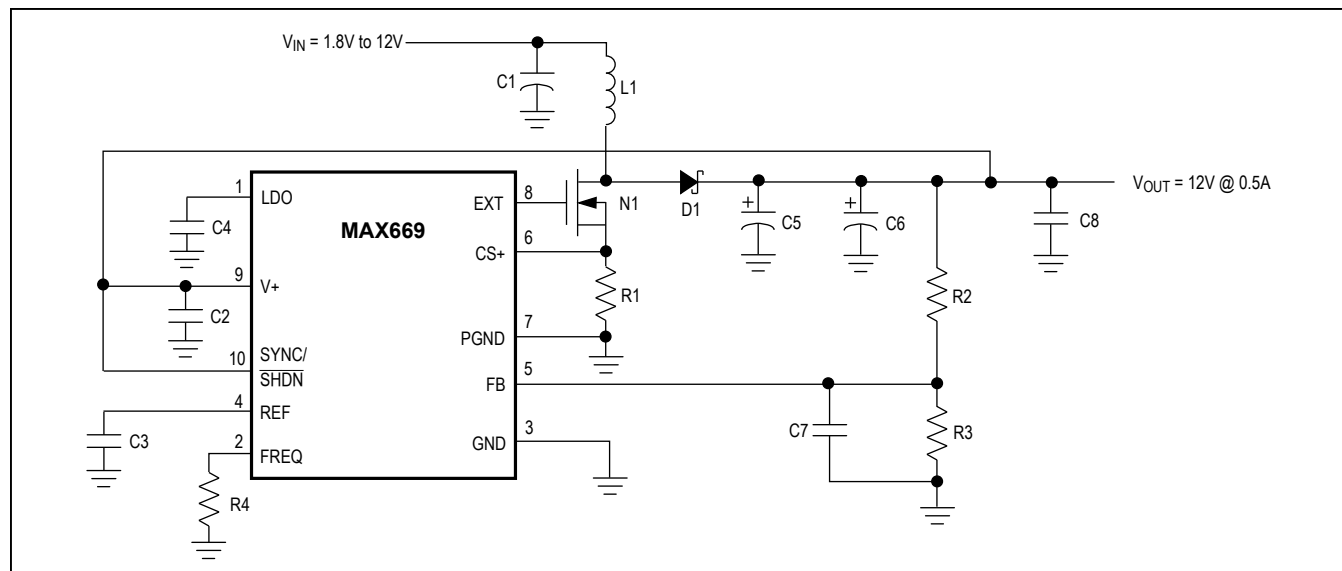
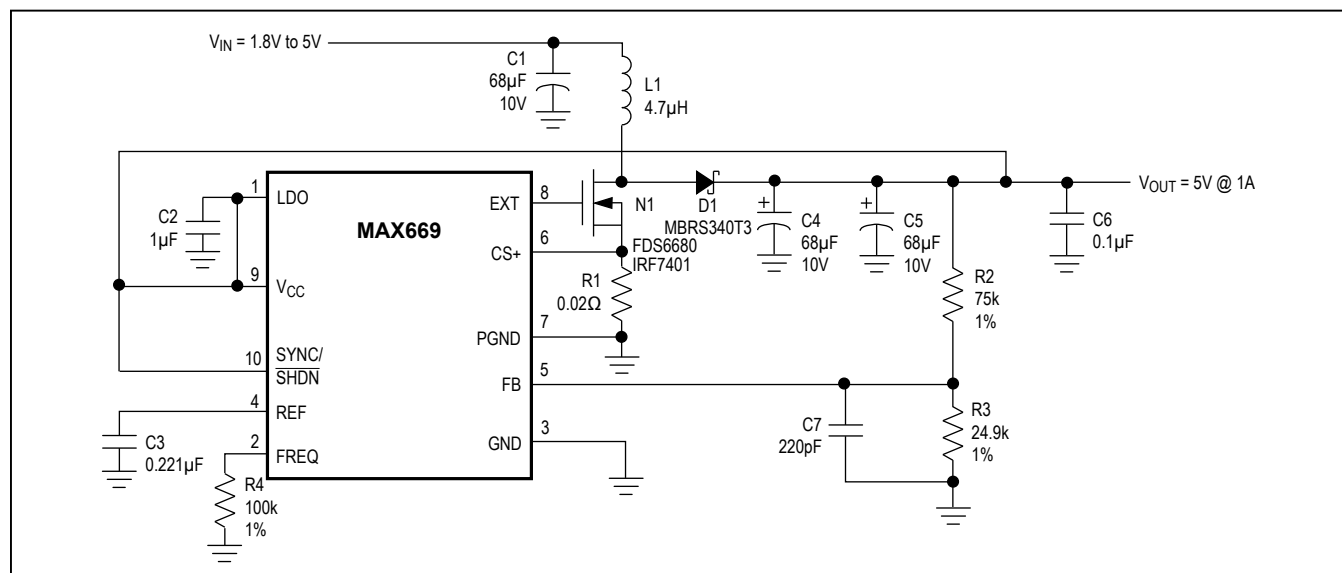
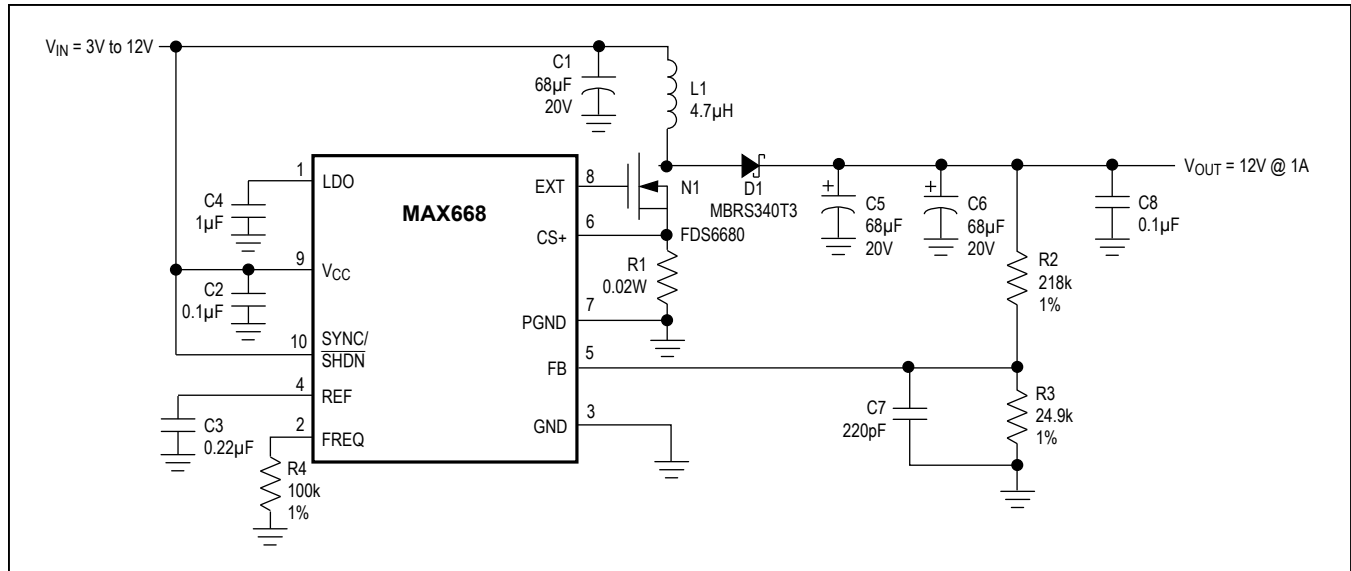
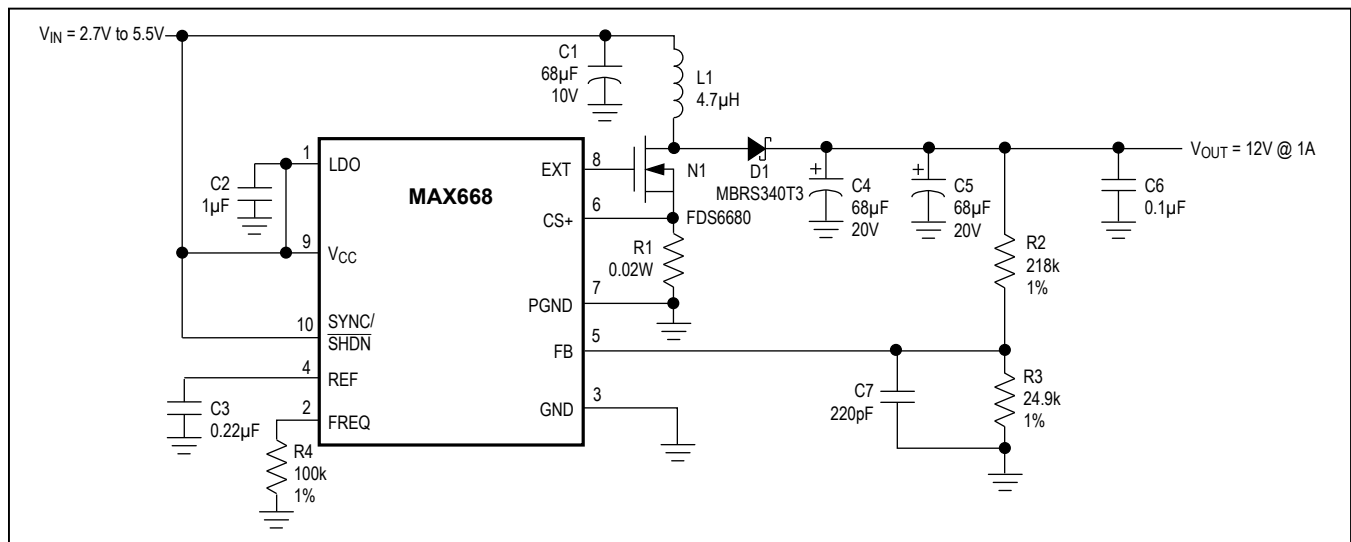

Figure 2. MAX669 High-Voltage Bootstrapped Configuration
Figure 3. MAX669 Low-Voltage Bootstrapped Configuration
Figure 4. MAX668 High-Voltage Non-Bootstrapped Configuration
Figure 5. MAX668 Low-Voltage Non-Bootstrapped Configuration
(Circuits of Figures 2, 3, 4, and 5; $T_A = +25^\circ\text{C}$; unless otherwise noted.)
V_{CC} and LDO allow a variety of biasing connections to optimize efficiency, circuit quiescent current, and full-load start-up behavior for different input and output voltage ranges. Connections are shown in Figure 2, Figure 3, Figure 4, and Figure 5. The characteristics of each are outlined in Table 1.
With V_{CC} connected to V_{OUT} , as in Figure 2, EXT voltage swing is 5V when V_{CC} is 5.2V or more, and $V_{CC} - 0.2V$ when V_{CC} is less than 5.2V. If the output voltage does not exceed 5.5V, the on-chip regulator can be disabled by connecting V_{CC} to LDO (Figure 3). This eliminates the LDO forward drop and supplies maximum gate drive to the external FET.
With non-bootstrapped operation, the IC is powered from the input voltage (V_{IN}) or another source, such as a logic supply. Non-bootstrapped operation (Figure 4) is recommended (but not required) for input voltages above 5V, since the EXT amplitude (limited to 5V by LDO) at this voltage range is no higher than it would be with bootstrapped operation. Note that non-bootstrapped operation is *required* if the output voltage exceeds 28V, since this level is too high to safely connect to V_{CC} . Also note that **only the MAX668 can be used with non-bootstrapped operation**.
If the input voltage does not exceed 5.5V, the on-chip regulator can be disabled by connecting V_{CC} to LDO (Figure 5). This eliminates the regulator forward drop and supplies the maximum gate drive to the external FET for lowest on-resistance. Disabling the regulator also reduces the non-bootstrapped minimum input voltage from 3V to 2.7V.
* For standard step-up DC-DC circuits (as in Figures 2, 3, 4, and 5), regulation cannot be maintained if V_{IN} exceeds V_{OUT} . SEPIC and transformer-based circuits do not have this limitation.
The output voltage is set by two external resistors (R2 and R3, Figure 2, Figure 3, Figure 4, and Figure 5). First select a value for R3 in the 10kΩ to 1MΩ range. R2 is then given by:
where $R2$ and $R3$ are the feedback resistors (Figure 2, Figure 3, Figure 4, and Figure 5). If the calculated value for C_{FB} results in a non-standard capacitance value, values from 0.5 C_{FB} to 1.5 C_{FB} will also provide sufficient compensation.
In non-bootstrapped configurations (Figure 4, and Figure 5), the MAX668 can start up with any combination of output load and input voltage at which it can operate when already started. In other words, there are no special limitations to start up in non-bootstrapped circuits.
Figure 5 shows the MAX668 operating in a 5V to 12V boost application. This circuit provides output currents of greater than 1A at a typical efficiency of 92%. The MAX668 is operated in non-bootstrapped mode to minimize the input supply current. This achieves maximum light-load efficiency. If input voltages below 5V are used, the IC should be operated in bootstrapped mode to achieve best low-voltage performance.